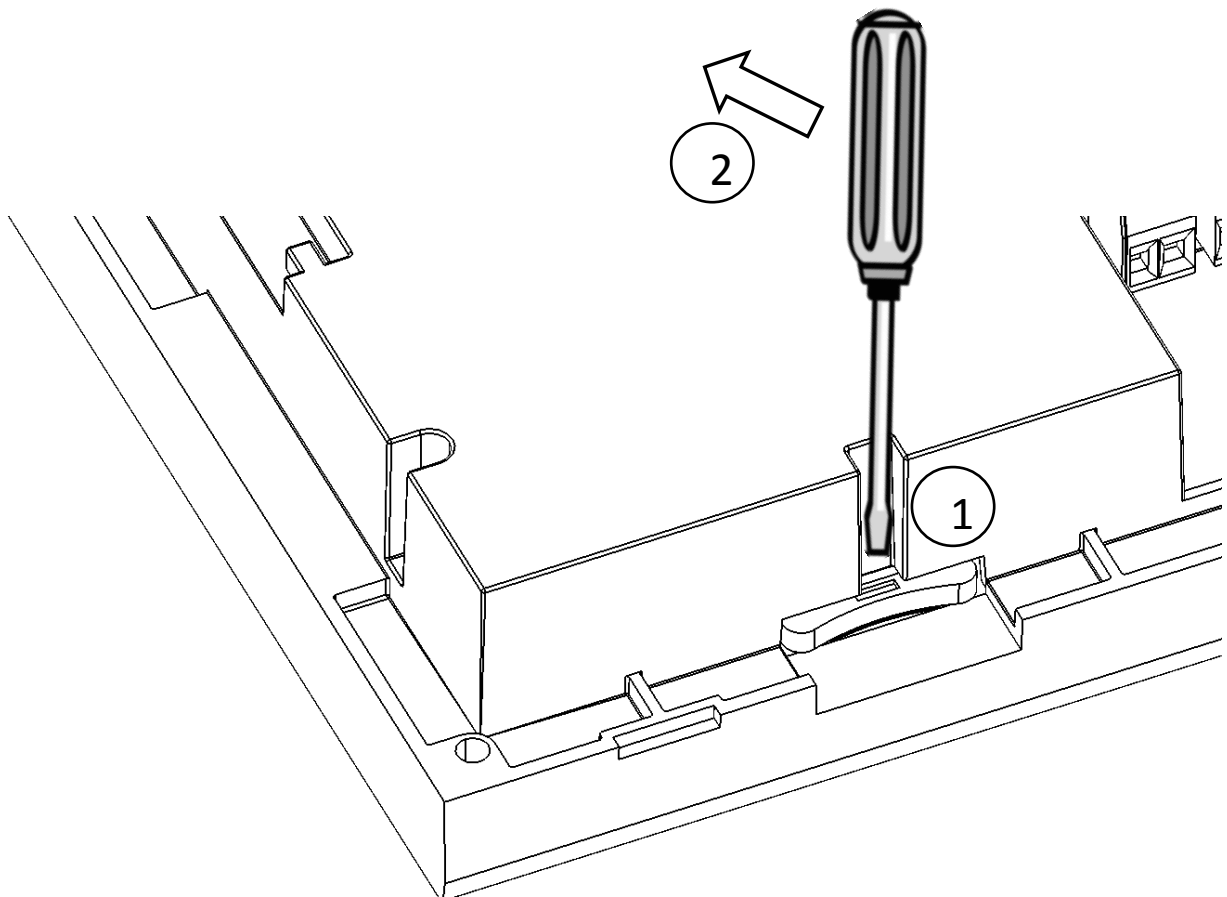

Figure 50 Change Backup Battery
To replace backup battery, follow the steps as depicted in Figure 50
- Locate physical location of backup battery on rear side of panel as shown in Figure 3 and Figure 50
- Insert flat screwdriver into notch of battery glider and slide it out by levering screwdriver as shown in Figure 50